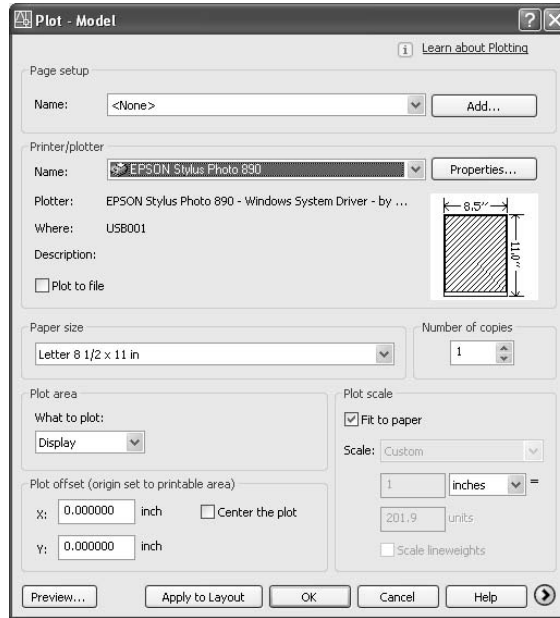

FIGURE 14.2: The Plot dialog box
2. Click the Plot button on the Standard toolbar to open the Plot dialog box. The title bar includes “Model” because, in this case, we are printing a drawing from Model Space. Later, when we print from Layouts, the title bar displays the name of the layout. This dialog box is similar to the Page Setup dialog box that you worked with in Chapter 13 when you were setting up layouts (see Figure 14.2). But there are some differences.
In this area, the Name drop-down list contains the various printing devices to which AutoCAD has been configured, with the current one, the EPSON Stylus Photo 890, displayed in Figure 14.2. Yours might say None or display a different printer. Just below the list, the name of the driver and port are displayed for the